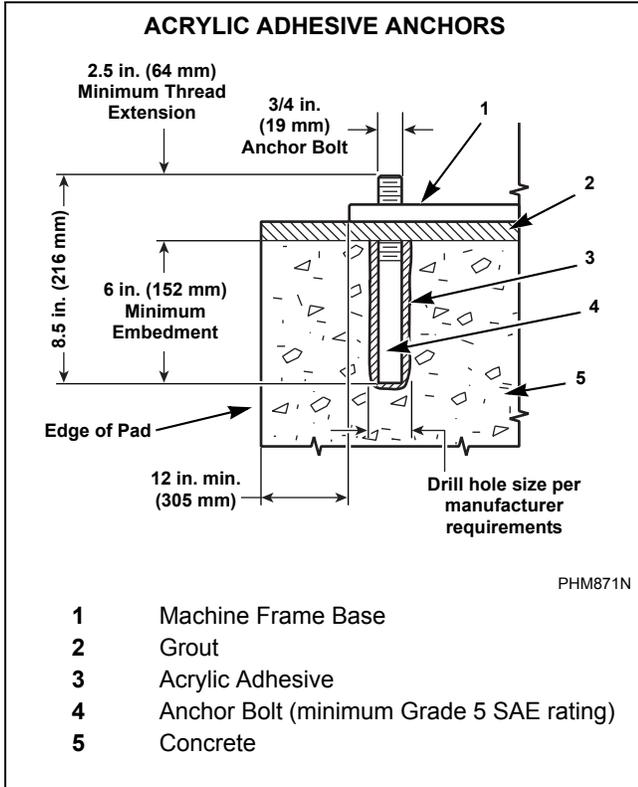
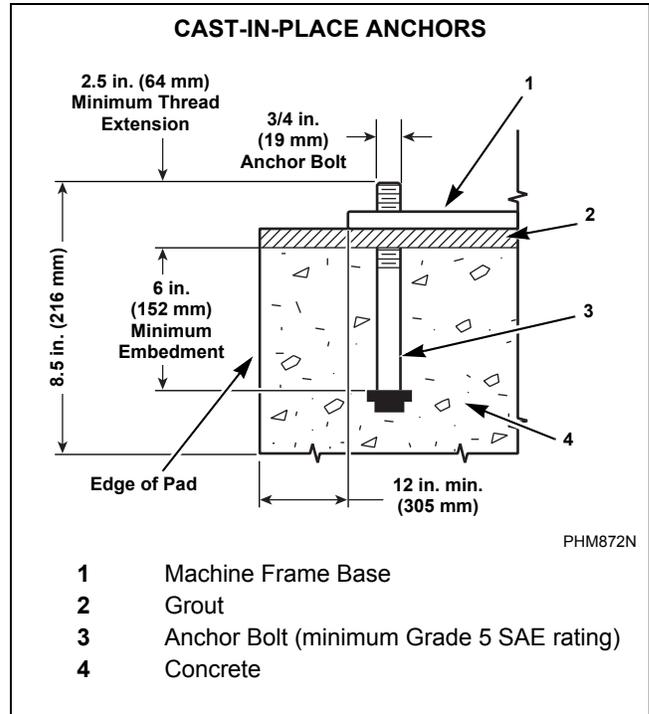

Figure 14
Figure 15
NOTE: As an alternate method, cast in the Grade 5 (minimum SAE rating), 3/4 inch (19 mm) anchor bolts as the concrete is poured, refer to *Figure 15*. Ensure that the bolt threads extend a minimum of 2.5 inches (64 mm) above floor level and a minimum of 6 inches (152 mm) of the bolt is embedded in concrete.
NOTE: After the concrete has cured completely and the cast-in-place method was used, refer to *Figure 15* and proceed to step 7. If acrylic adhesive anchors are desired, refer to *Figure 14* and proceed with step 1 after concrete has cured completely.
1. Refer to *Figure 14* to set the drill depth gauge.